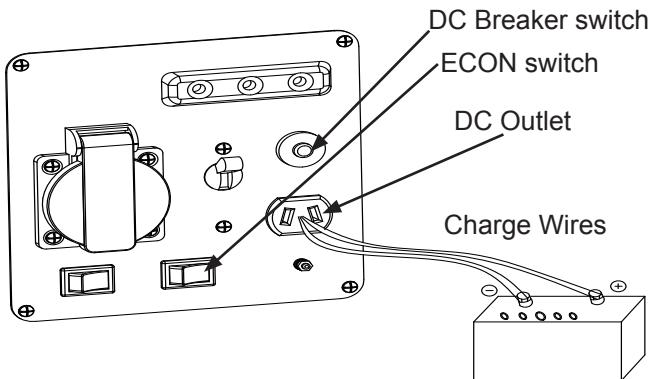
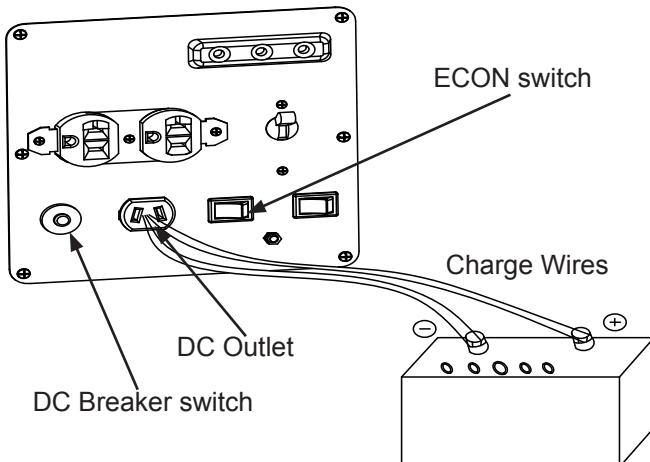

Fig. 4.14
Fig. 4.15
- The DC socket is only used for charging a 12V battery. (Refer to Fig. 4.14 for HY1000Si and Fig. 4.15 for HY2000Si)
- When using the DC socket, turn the ECON switch to the OFF position. (Refer to Fig. 4.14 for HY1000Si and Fig. 4.15 for HY2000Si)